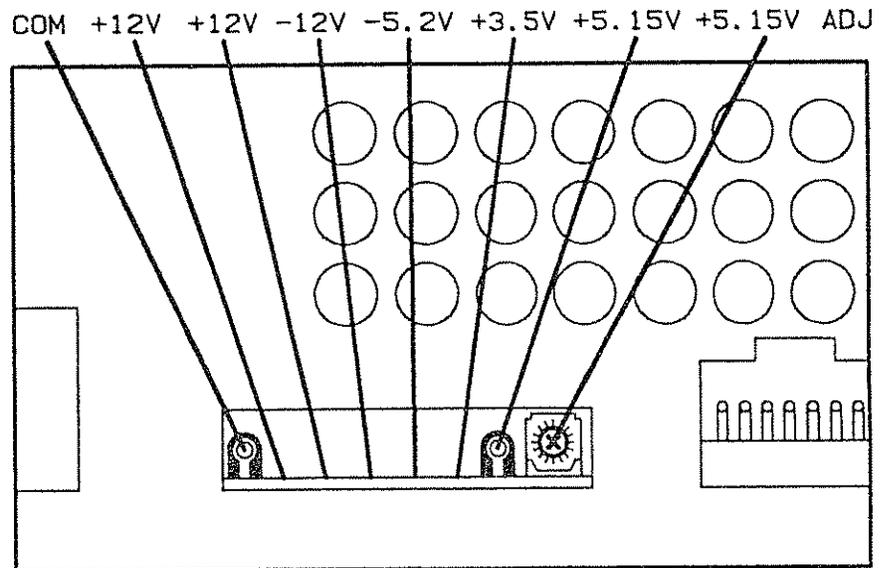

Figure 2-23. A5 Power Supply Test Points
1. Next to where cable W27 connects to the A5 Power Supply, measure the voltage on each pin. See figure 2-23. The voltages should be as shown in figure 2-23. If any of the voltages are wrong, replace the A5 Power Supply. If the voltages are correct, replace cable W27.